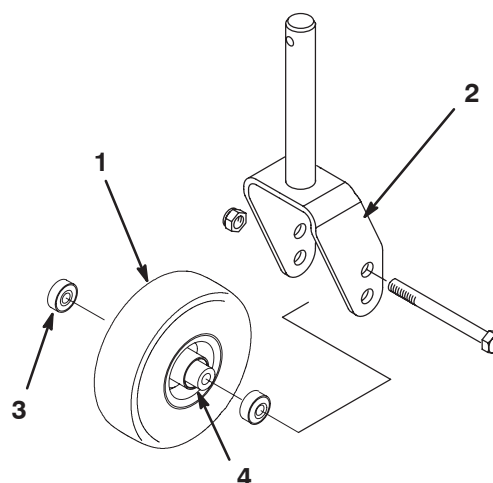
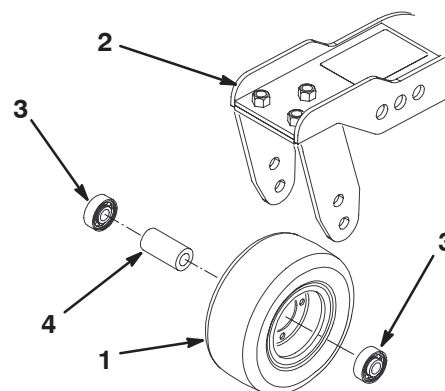

Figure 86
Figure 87
1. Remove the locknut from the capscrew holding the castor wheel assembly between the castor fork (Fig. 86) or the castor pivot arm (Fig. 87). Grasp the castor wheel and slide the capscrew out of the fork or pivot arm.
2. Remove the bearing from the wheel hub and allow the bearing spacer to fall out (Fig. 86 and 87). Remove the bearing from the opposite side of the wheel hub.